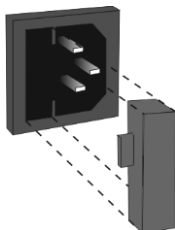

Figure 8. Fuse holder
- 9.3 **Fuse replacement.** Disconnect the power cable from the mains. Disconnect the power cable from the socket on the rear of the unit. Open the fuse holder, located near the socket (figure 8). Check and replace with a correct fuse, if necessary, see table below: